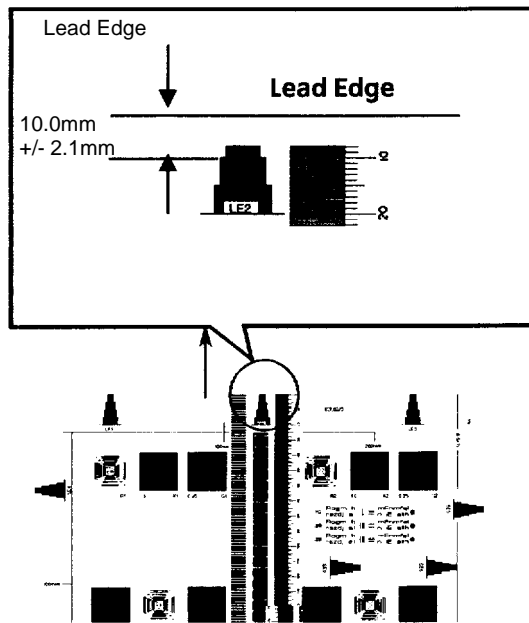

Figure 1 Checking IIT Lead Registration
2. On the 2nd copy, check that the distance from the lead edge to the top of Step 3 on the LE2 scale is 10.0mm +/- 2.1mm (Figure 1).